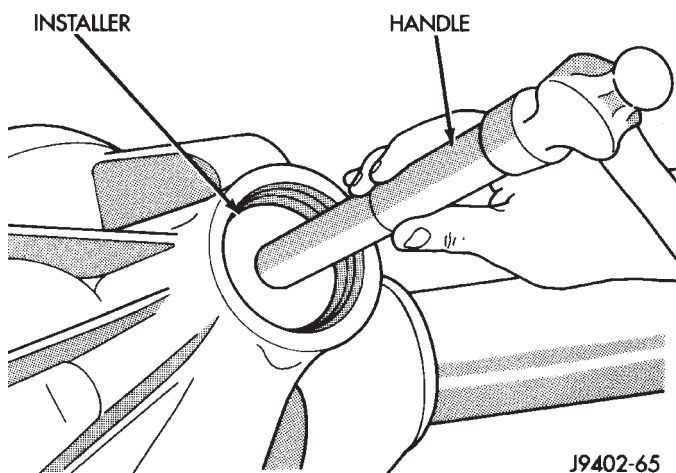

Fig. 26 Pinion Front Bearing Cup Installation
(2) Apply Mopar® Door Ease stick lubricant to outside surface of bearing cup. Install the pinion front bearing cup with Installer D-146 and Handle C-4171 (Fig. 26).